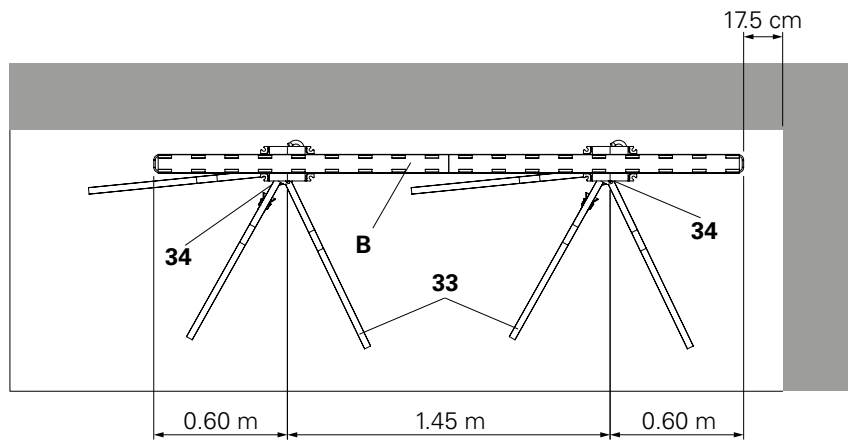

Fig. D6.10
- 60 cm for VT 20 L = 2.65 m (B) (Fig. D6.10)